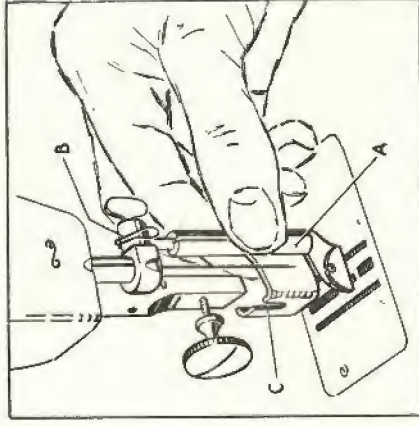

Fig. 56.
Move the needle bar up to its highest position and screw out the presser foot screw about $\frac{1}{4}$ in. Then, holding the darning foot by its tubular part (A, Fig. 56), hook the spring (B) over the needle clamp. Press the holder (C) hard against the presser bar, push it up under the screw, and tighten the screw.